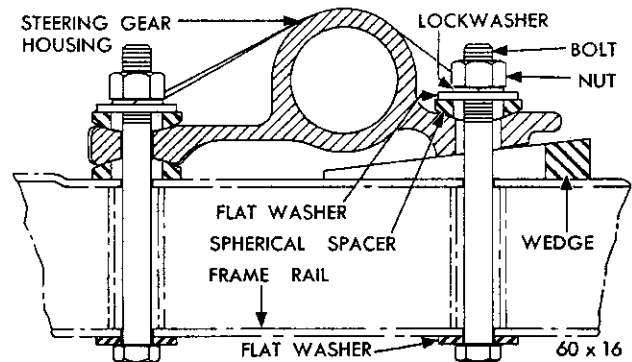

Fig. 48—Steering Gear Mounting
(16) Install the horn blowing actuator, the steering wheel cover and attaching screws.
(17) On Models TC-1, TC-2, TC-3, install the steering column and jacket tube as outlined in Part 1, "Manual Steering Column Installation".
(18) Tighten the jacket tube to the instrument panel bracket screws. Tighten the screws to 50 inch-pounds torque.
(19) Install the steering column lower cover.
(20) Tighten the front upper and the lower gear housing to the frame attaching bolts to 24 foot-pounds torque.
(21) Install a wedge over the rear bolt (Fig. 48) between the housing and the frame so that the tapered surfaces match, wedge lightly into place and tighten the three attaching bolts to 50 foot-pounds torque.